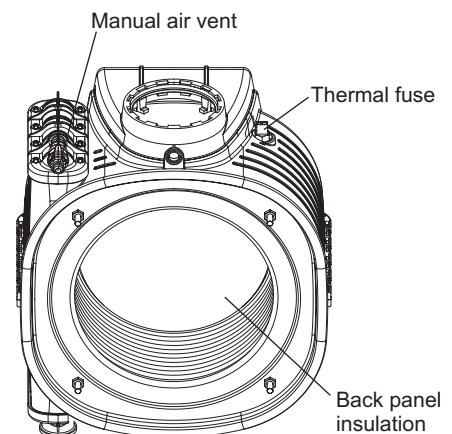

Fig. 26
Back panel insulation - Fig. 26
7.18 HEAT EXCHANGER THERMAL FUSE - Fig. 26